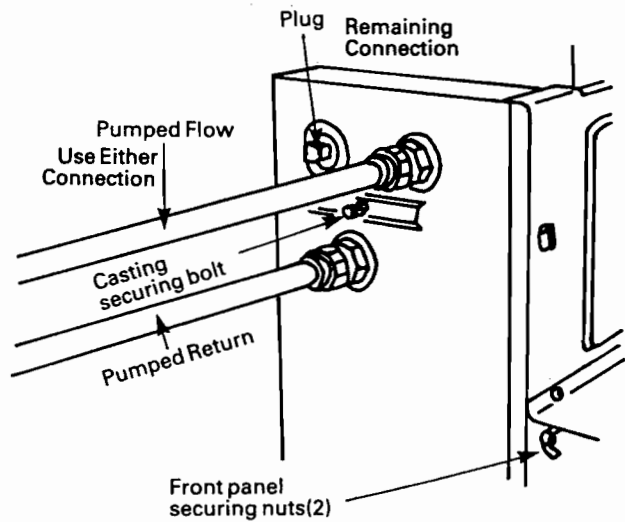

Fig. 6. Fully Pumped System
- Remove the front panel (Fig. 6). Transfer the thermostat pocket blanking disc to the right hand hole.
7b Fully Pumped Systems The flow and return connections to the boiler to be made as follows (Fig. 6).